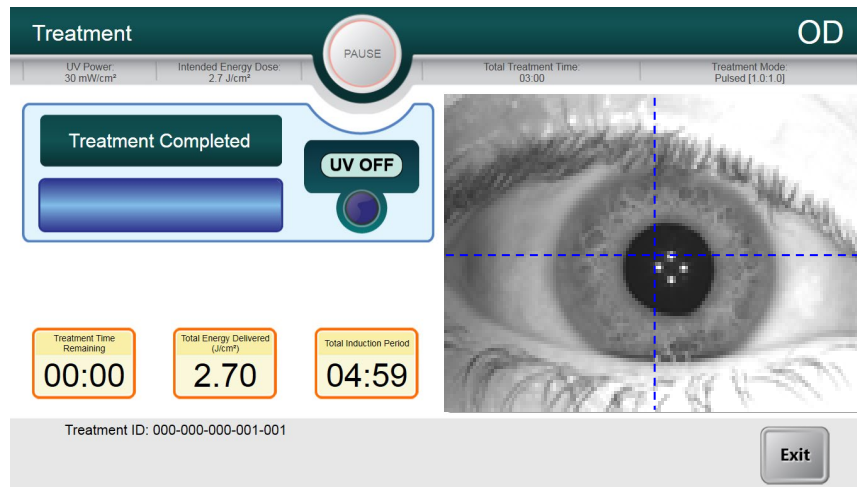

Figure 5-29. Treatment Complete Screen
- At the completion of a treatment, a summary of treatment parameters will be displayed, and the screen will show “Treatment Completed”, as shown in Figure 5-29.